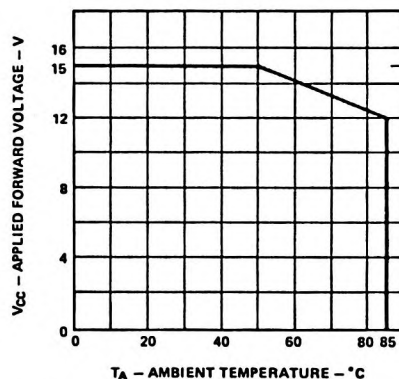

Figure 4. Maximum Allowed Applied Forward Voltage vs. Ambient Temperature $R\theta_{JA} = 175^{\circ}\text{C/W}$. 12 Volt Devices
3. Derate from $T_A = 50^\circ\text{C}$ at $0.086\text{V}/^\circ\text{C}$, see Figure 4.